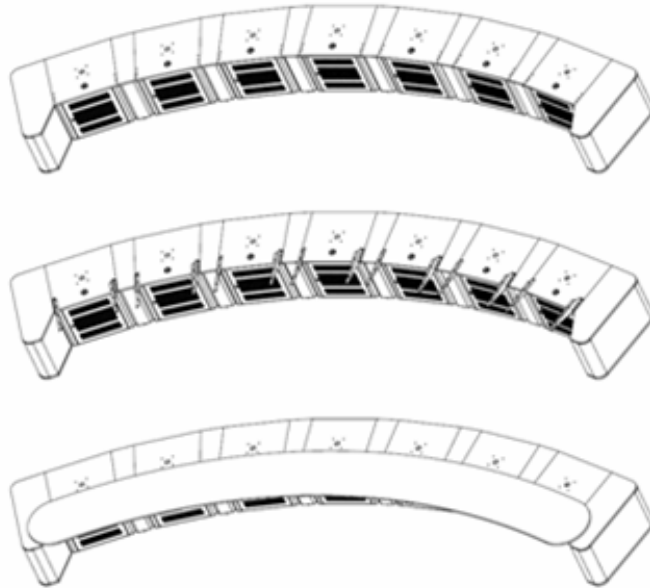

Figure 5-2 Install up desktop
7. After installing the up desktop, tighten the M6 screws of bracket arm and desktop, as shown in Figure 5-2.